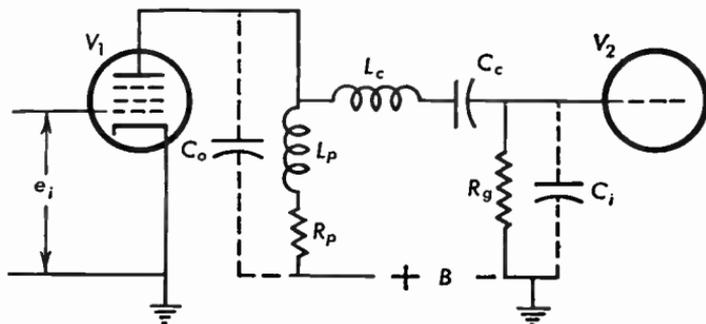

Fig. 11.38a Video amplifier with series and shunt-peaking coils for high-frequency compensation.
11.38 In the video amplifier of Figure 11.38a, $R_p = 3600$ ohms, $r_p = 100,000$ ohms, $C_c = 0.25$ microfarad, $R_g = 2$ megohms, $C_i = 12.5$ micromicrofarads, $C_o = 7.5$ micromicrofarads, $L_p = 30$ microhenries, $L_c = 130$ microhenries, the tube V_1 has a $g_m = 7700$ micromhos. Calculate the voltage gain at 4 megacycles (a) without the application of the series-shunt compensation, (b) with the application of the series and shunt compensating coils.